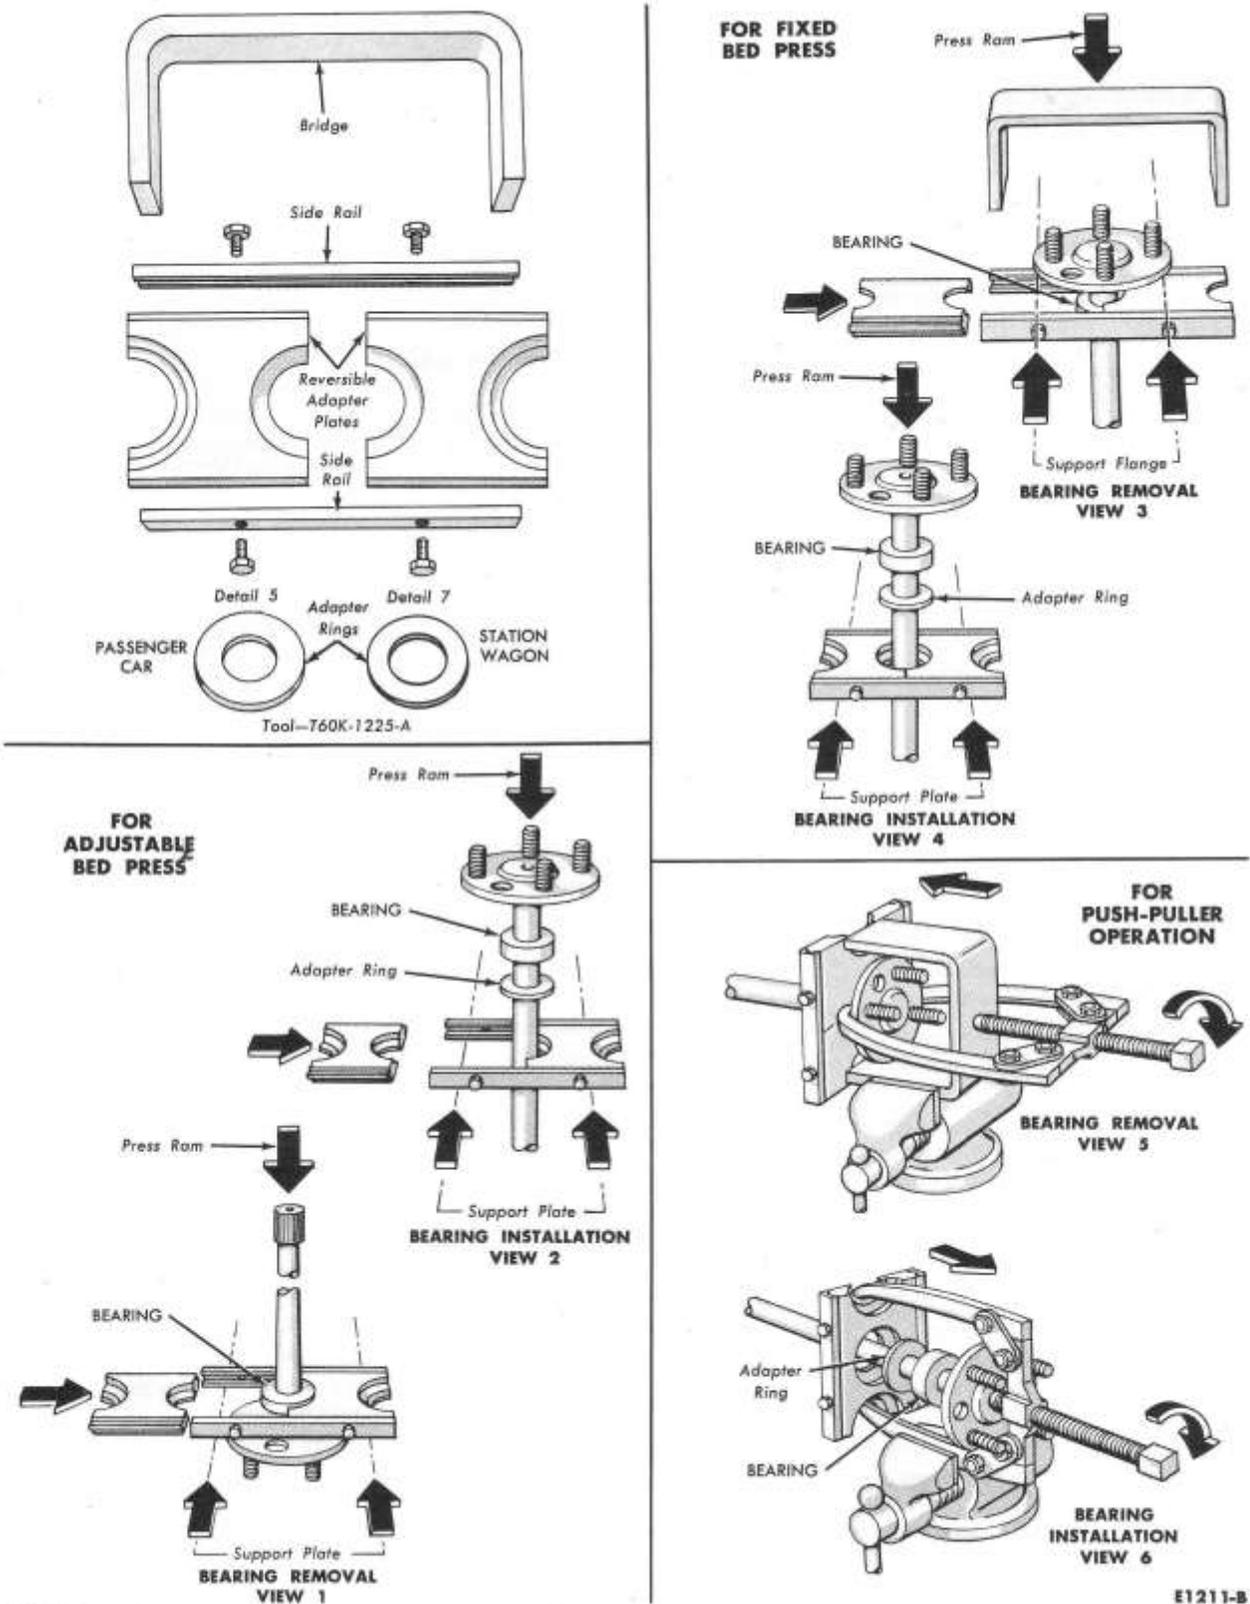

FIG. 3—Rear Wheel Bearing Removal and Installation
5. Remove the bearing from the axle shaft with the tool shown in Fig. 3.
7. With the tool shown in Fig. 3, press a new rear wheel bearing on the axle shaft. **The bearing should seat firmly against the shaft shoulder.**